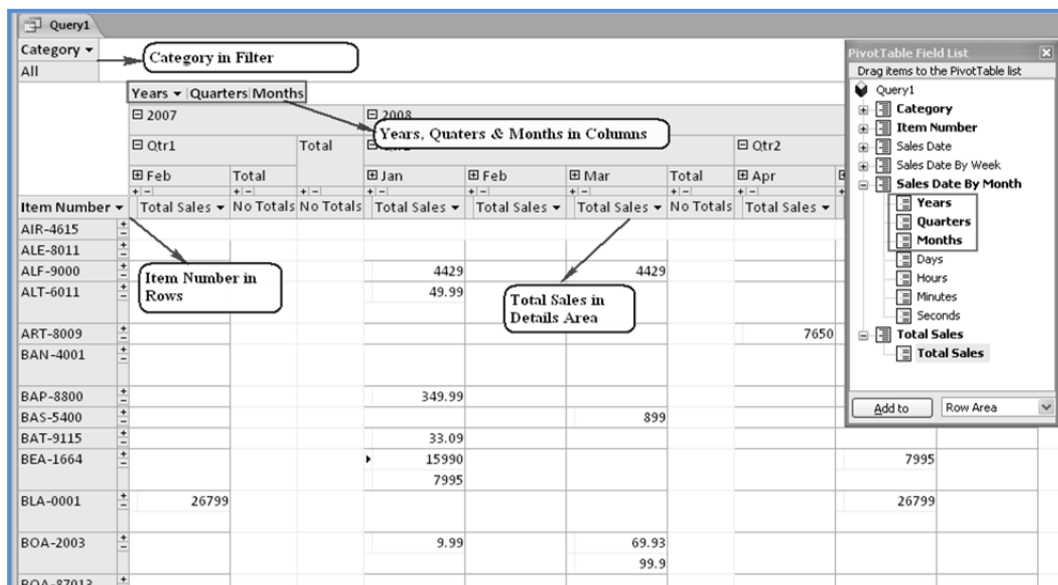

Fig. 1.2.59: Drag Fields in PivotTable Area
6. Select and drag the *Total Sales* field to the **Drop Totals or Detail Fields Here** area. The *PivotTable* window should appear as in Fig. 1.2.59.